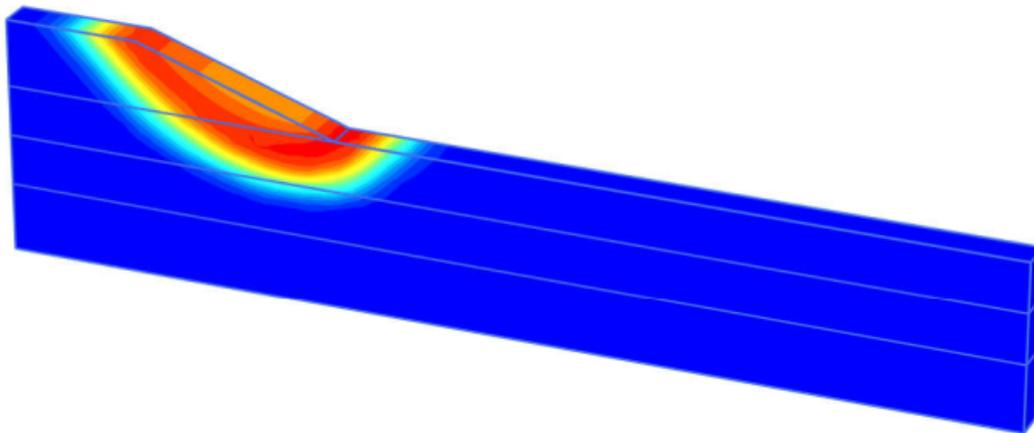

Figure 101: Shadings of the total displacement increments indicating the most applicable failure mechanism of the embankment in the final stage
3.  Change the presentation from **Arrows** to **Shadings**. The resulting plots give a good impression of the failure mechanisms (see Figure 101 (on page 126)). The magnitude of the displacement increments is not relevant.